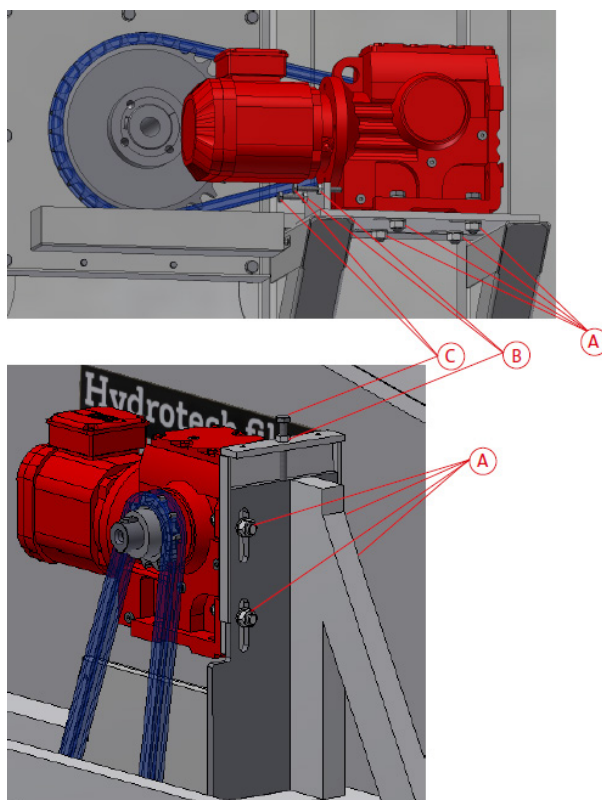

Figure 7.15 & 7.16 Chain drive filter type 1C
1. Turn the main power switch to the OFF (0) position and lock with a padlock. 2. Loosen the four nuts (A) (see Figure 7.15 and Figure 7.16).
3. Loosen the nut/nuts (B).
4. Adjust the tension of the chain using the screw/screws (C).
5. Secure the screw/screws (C) using the nut/nuts (B).
6. Tighten the four nuts (A).